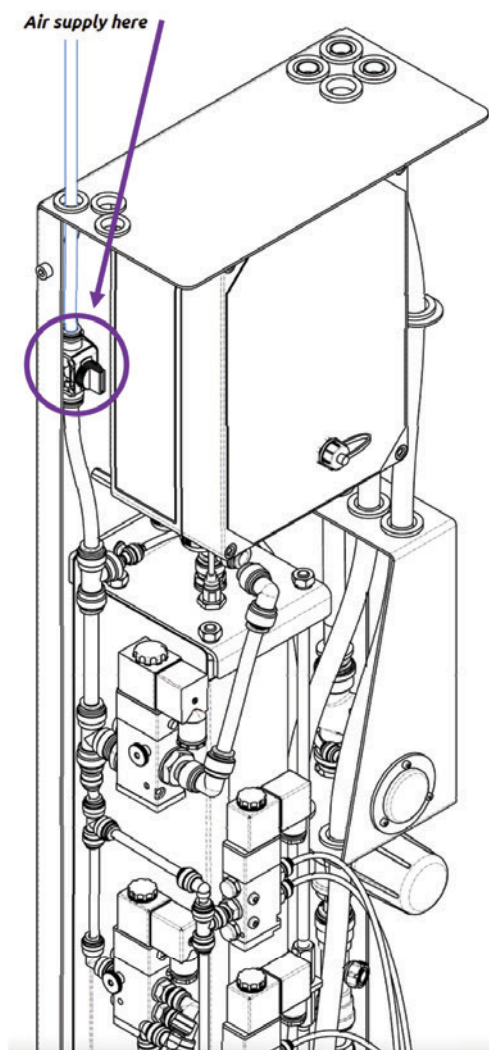

Figure 87: Air supply connection
1. Connect air supply with included T-coupling to the PedicoSprayer main unit (Figure 87).